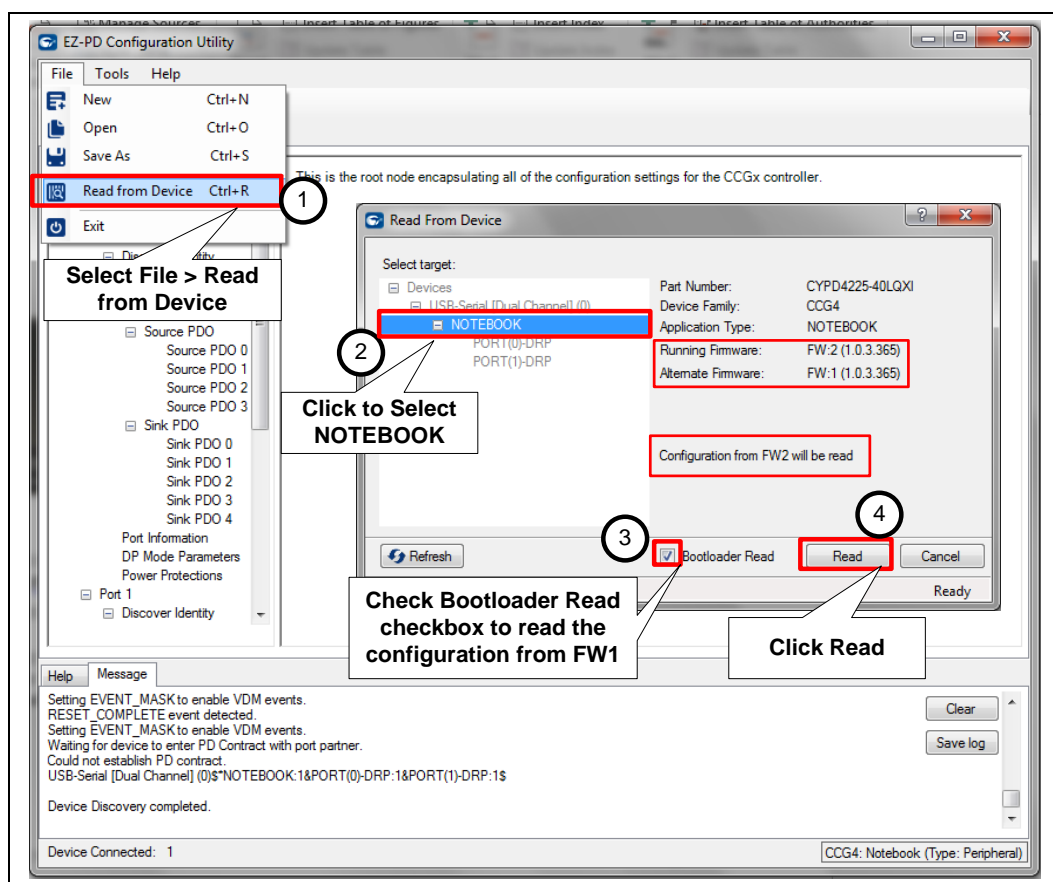

Figure 15 Reading the existing configuration table of CCG4 device
- Select **File > Read From Device**, select **NOTEBOOK** in the USB-PD Device list as shown in **Figure 15**. Select the **Bootloader Read** checkbox and click on the **Read** button in the popup window to read the existing configuration as shown in **Figure 15**.
*The existing configuration will now be read, and will be displayed in the utility in a tree under **CCGx Configuration** in the left panel as in **Figure 15**. Device configuration parameters are classified into Device Parameters, Port Parameters, and User Parameters. For multi-port devices there will be multiple copies of the port parameter entries. Port parameters are further classified and grouped into a hierarchical tree structure.*